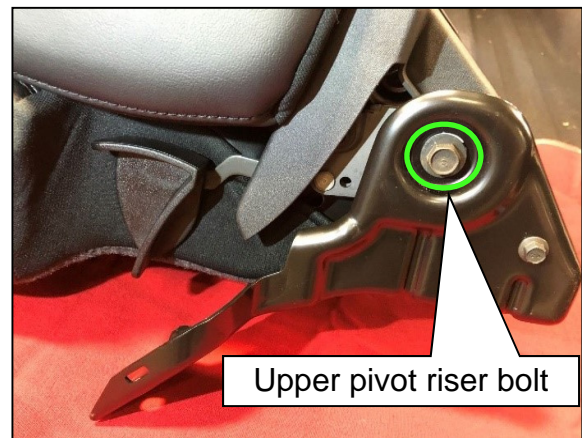

Figure 15
16. Torque the upper pivot riser bolt to specification (Figure 15).